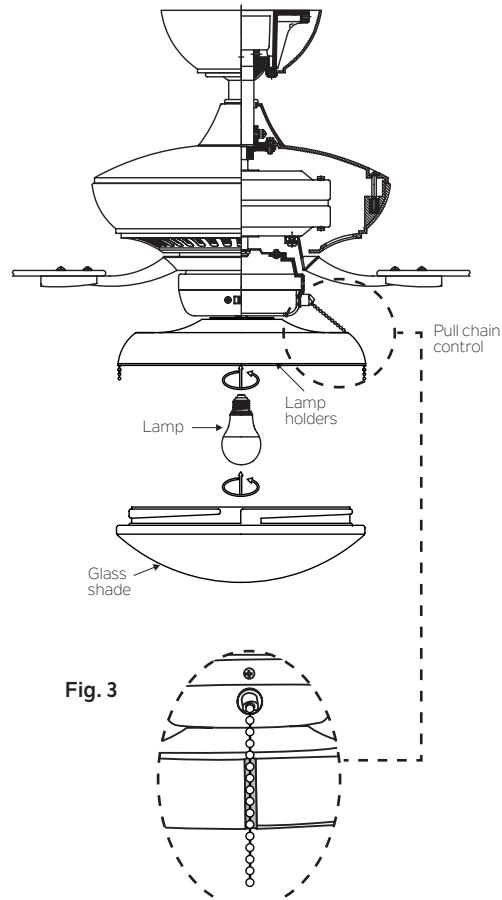

Fig. 3
1. Install the 9 watt E26 LED lamp (provided) to the fixture socket. (Fig. 3)
2. Attach the glass shade to the light fixture by turning the glass shade clockwise. DO NOT OVER TIGHTEN. (Fig. 3)